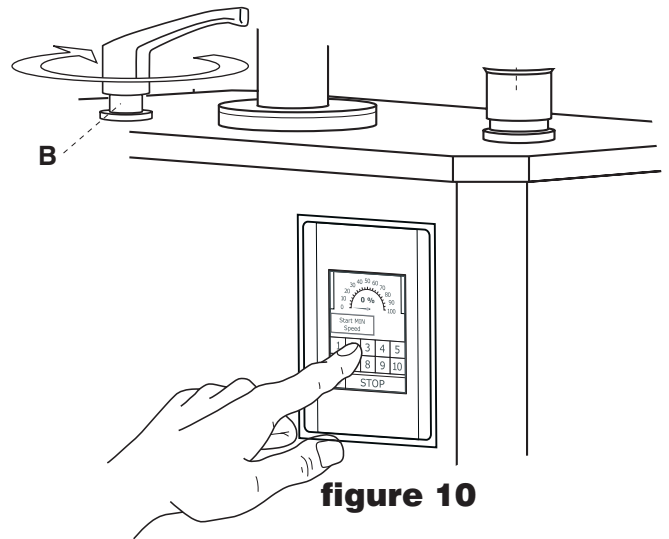

figure 10
For work that requires a predetermined time, or to let the machine work without an operator present, block the column height using handle (B) and set the working time on the display. (Fig.10).